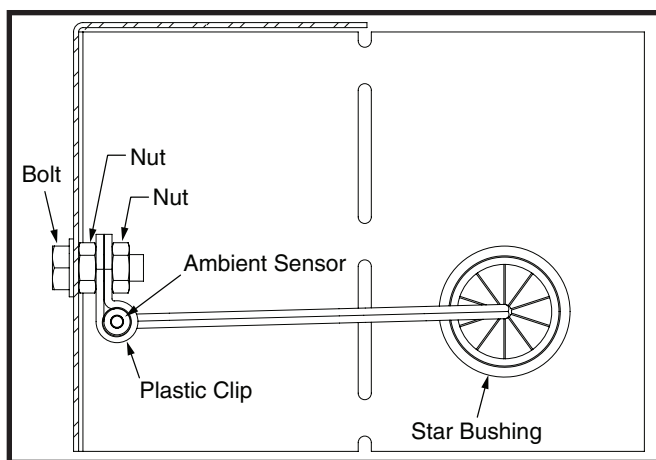

Figure 5. Ambient Sensor Mounting
Condensate is removed from the unit through the 3/4" female pipe fitting located on the front side of the unit. Install a 2 inch condensate trap in the drain line of the same size and prime with water. See Figure 5.
For optimum performance of the heat pump system, the ambient sensor must be mounted on the outside of the unit. See Figure 5 \(page 8\).
2. Remove star bushing from 7/8" hole in corner panel of the unit. See Figure 5.